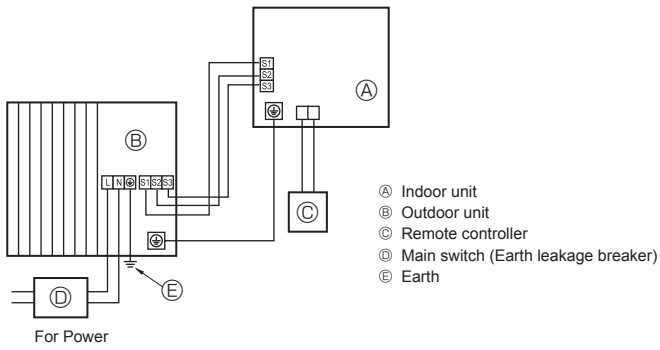
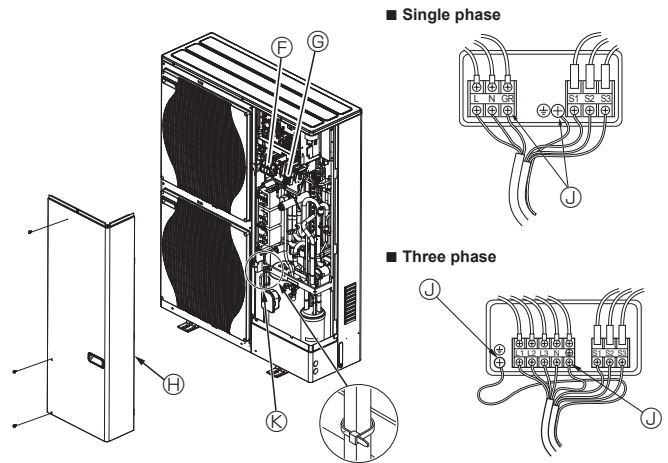

Fig. 5-1
Fig. 5-2
5.1. Outdoor unit (Fig. 5-1, Fig. 5-2)
- ① Remove the service panel.
- ② Wire the cables referring to the Fig. 5-1 and the Fig. 5-2.